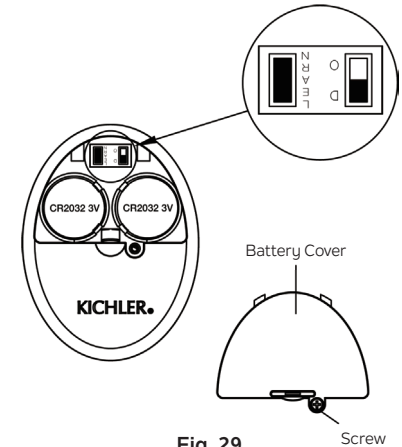

Fig. 29
Otherwise the remote control will not work. To perform this process manually, follow steps below: After installing and wiring the unit, restore power to your fan, press and hold the “LEARN” key for 1-3 seconds, and the fan will turn on at medium speed and light (if installed) will turn on. This confirms that the learning process has been completed. This operation must be completed within 30 seconds after restoring power to the fan. (Fig. 29)
NOTE: Ensure slide switch in battery compartment marked “D O” is set to “D” position. (Fig. 29)
Step 4. Replace the battery cover and tighten with screwdriver. (Fig. 29)